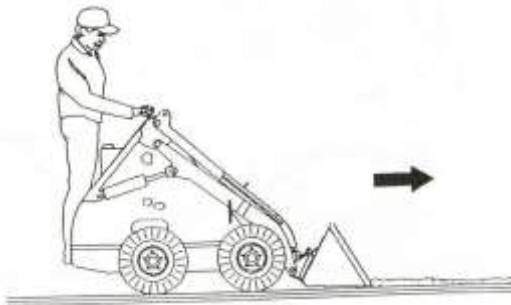

Figure 16
2. Another method of leveling is to travel forward with bucket down and level, full of material and pushing excess into low areas. Depth is controlled by tilting the bucket slightly up or down, as in Figure 16.